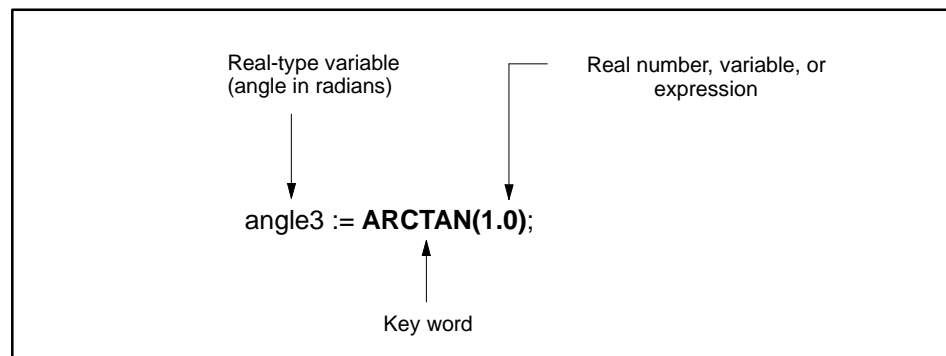

Figure 11-5 ARCTAN Function
- The returned value is a real number that represents the measure of an angle in radians. For example, in Figure 11-5, the value of the variable, angle3, is 0.785.